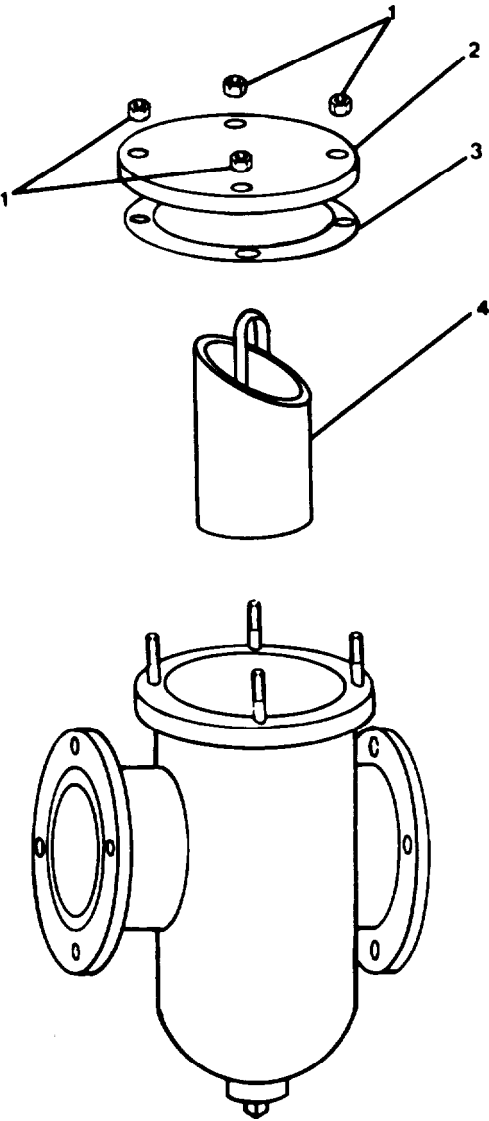

FIGURE 2-245. 5-Inch Sediment Strainer Basket, Repair.
- a. Remove hexagon nuts (1, FIGURE 2-245).
- b. Remove cover (2) and asbestos gasket (3).
- c. Remove strainer sediment element (4).
- a. Install strainer sediment element (4, FIGURE 2-245).
- b. Install asbestos gasket (3) and cover (2).
- c. Install hexagon nuts (1) and torque to 75 ft-lb (102 N•m).